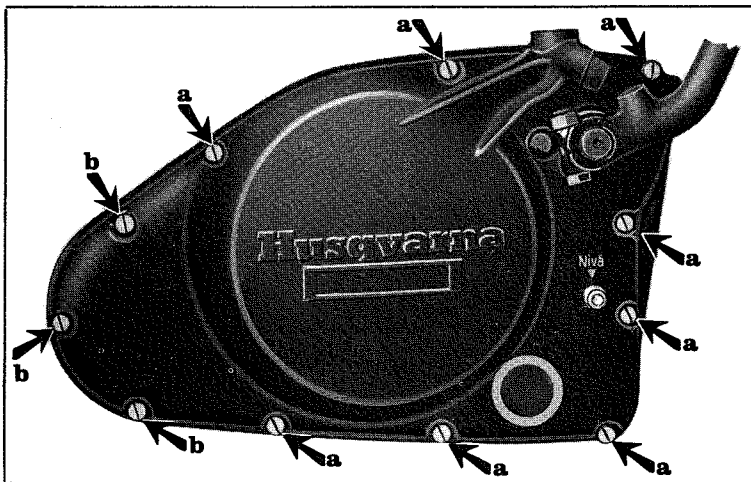

Fig. 12
12. Assemble the engine cover. Screws are of two different lengths and should be fitted as shown in Fig. 12.